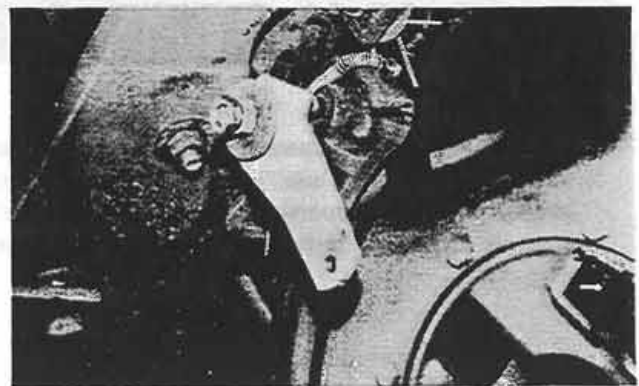

Figure 7:
3. Loosen the cam lock nut on the park brake caliper to allow extra clearance when removing the disc (Fig. 7).